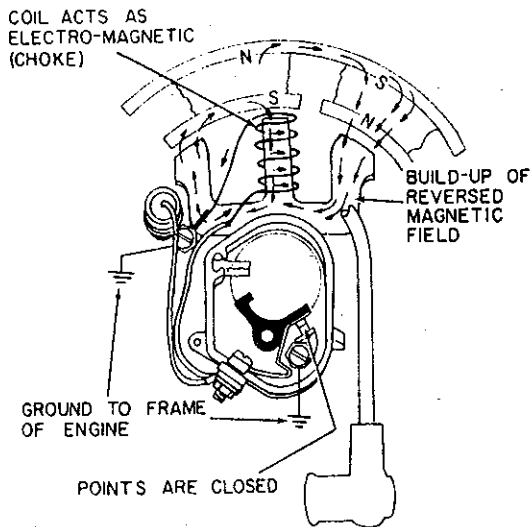

Figure 5
- B. As the flywheel continues to rotate, the first magnet now appears over the third leg and the second magnet comes directly over the center leg. Now the magnetic field passes from the top of the third leg down and attempts to go up the center leg. However, in step one, the coil had become an electro-magnet and opposes any change in magnetic flow. (See Figure 5.)